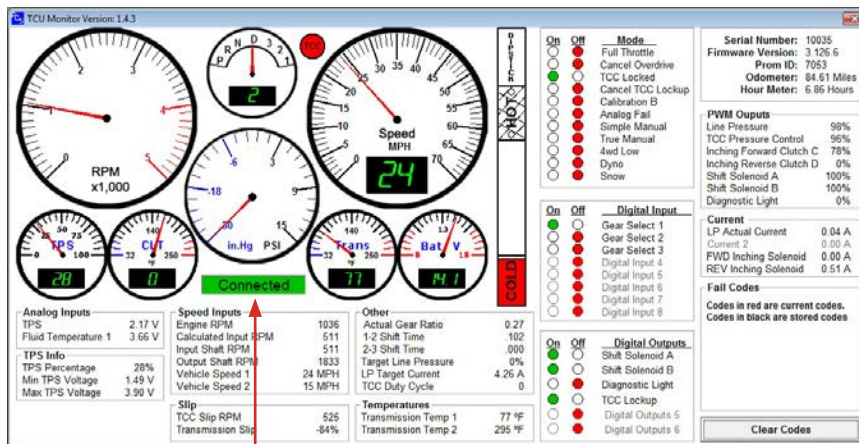

Figure 6
6. Once TCU has been connected the "Monitor" screen will appear. **Reference Figure 6.**